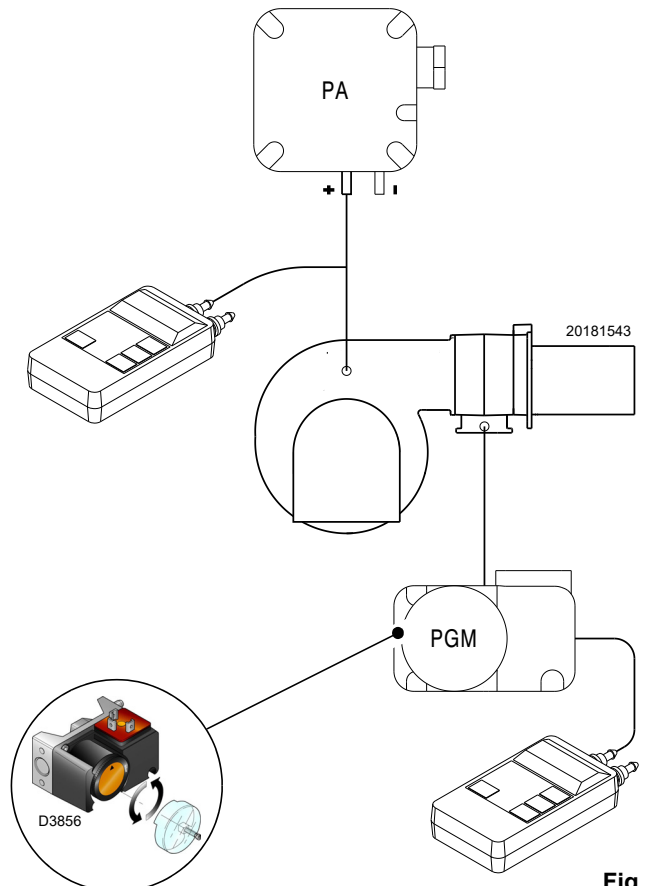

Fig. 46
- Adjust the high gas pressure switch to the upper limit of the scale (Fig. 46, page 35).
Adjust the maximum gas pressure switch (Fig. 46) after making all other burner adjustments with the maximum gas pressure switch set to the end of the scale.